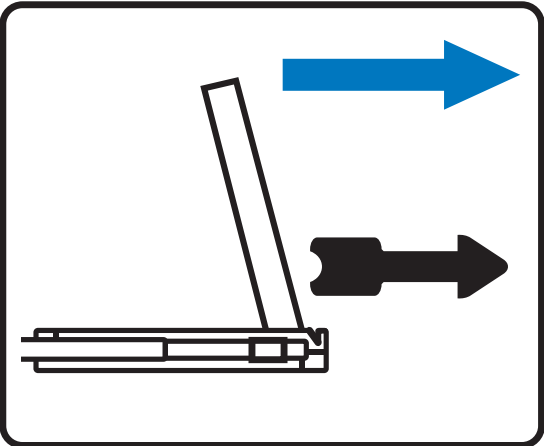

Figure 15.
- Pull and hold the black arrow button on either side of the LCD drawer to unlock. (shown in **Figure 15**).